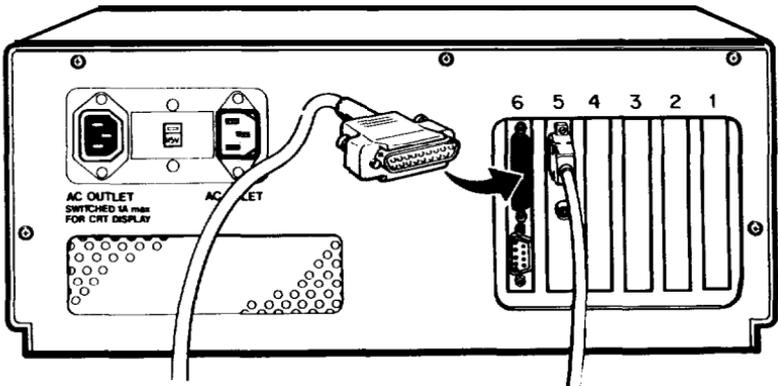

Figure 1-8. Connecting the printer cable to the *parallel port*
3. Connect the appropriate end of the printer cable to the parallel port on the back panel of the main unit, as shown in Figure 1-8. If the plug has retaining screws, tighten them with a small screwdriver.